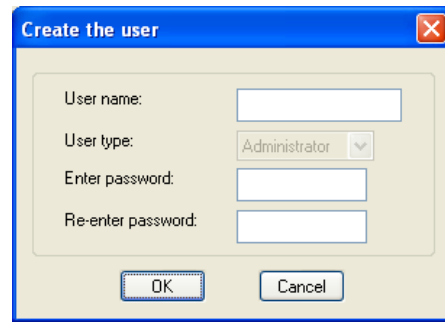

Figure 3
2. Click the CREATE button to display the Create the User window (Fig. 3).